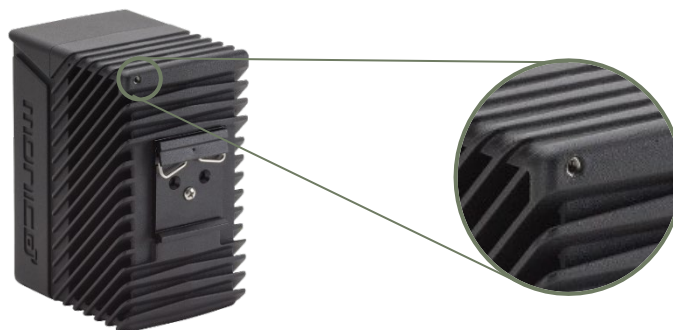

Figure 4
2. Connect the Grounding Wire to the mCore's Grounding Lug connection point, shown in Figure 4 below.